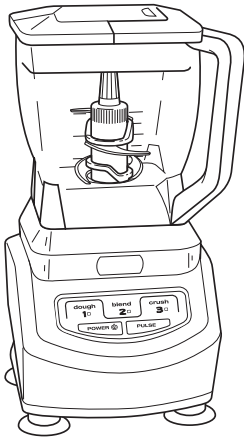

Fig. 10
- 1 Place the motor base on a clean, dry, level surface such as a counter or table top. (Fig. 10)
- 4 Add the ingredients and secure the bowl lid onto the bowl. (Fig. 10)